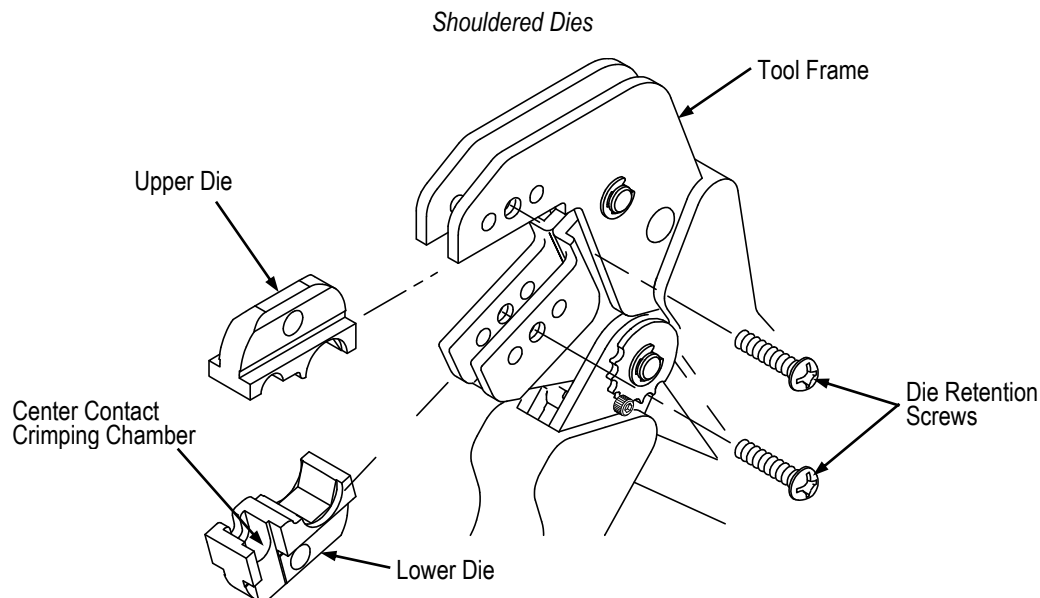

Figure 2
3.1. Shouldered Dies (See Figure 2)
Install die assemblies with center contact crimping chamber with the center contact crimp chamber toward the front of the tool jaws as shown in Figure 2. If indicated otherwise in another document, follow the specific die requirements demonstrated in that document.